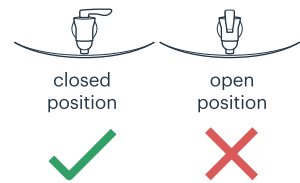

Figure 4
- 7 Move the spigot handle to the closed position, as shown in Figure 4.